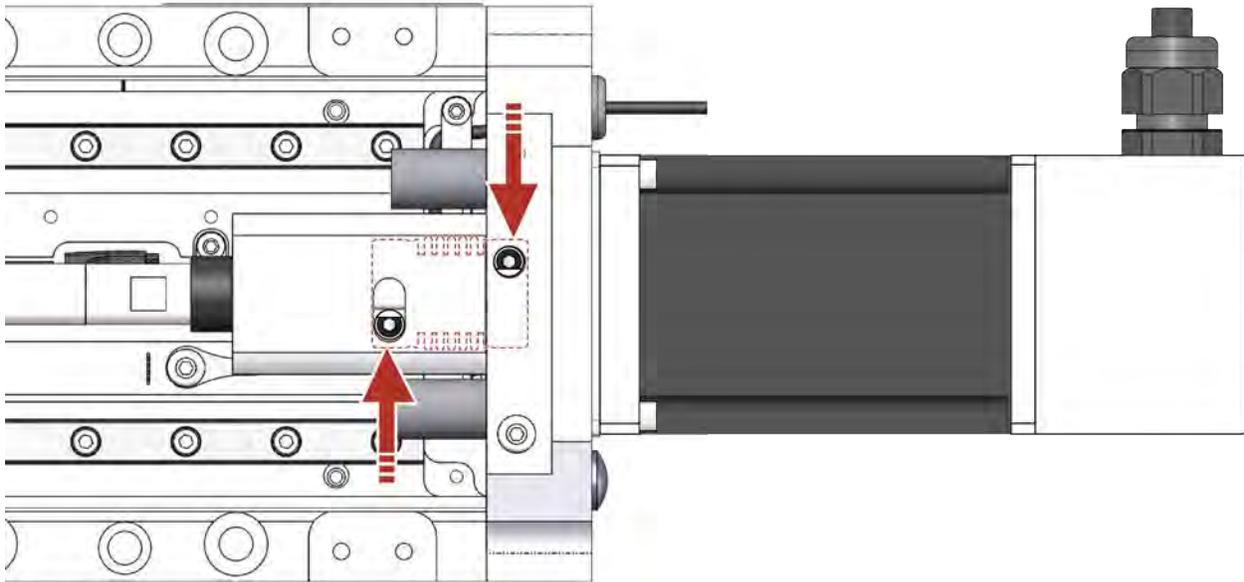

Figure 4-6: Tighten the Shaft Coupling to the Drive Screw
7. Tighten the Shaft Coupling to the drive screw (Figure 4-6). Refer to Table 4-1 for the correct hardware and torque requirements.